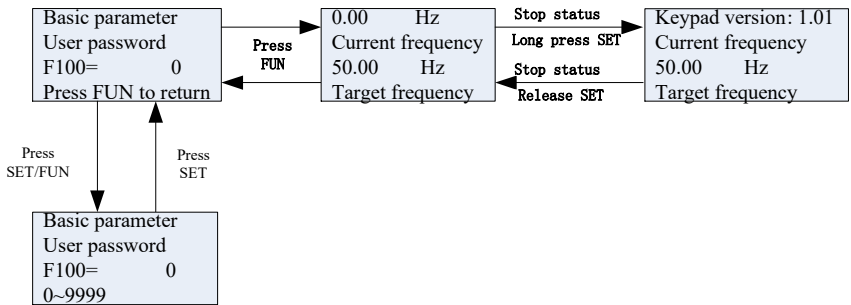

Fig 5-2 Operating flow chart of interface switch
- (1) Connect the wires in accordance with Figure 5-2. After having checked the wiring successfully, switch on the circuit breaker, and power on the inverter;